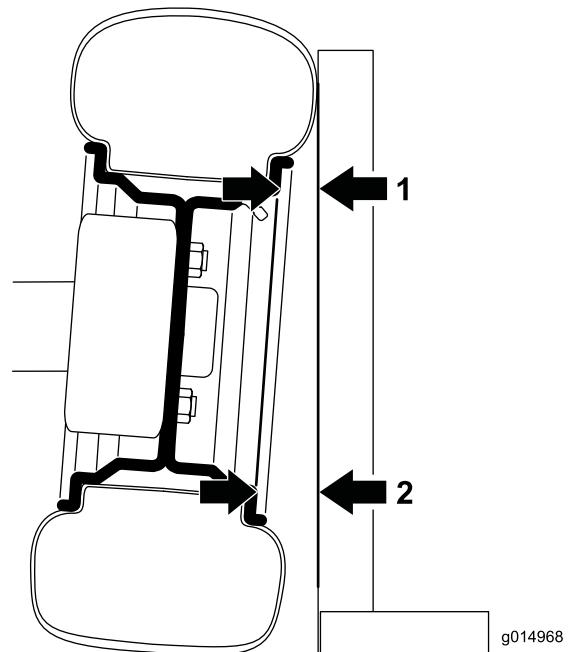

Figure 41
1. To check the camber, place a 90 degree square on the ground with the vertical edge touching the face of the tire (Figure 41).
2. Measure from the same part of the rim on the top and bottom of the tire to the square (Figure 41).